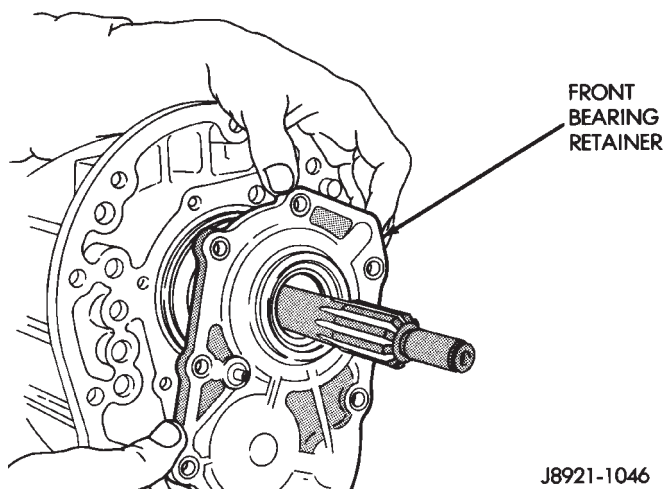

Fig. 39 Install Front Bearing Retainer
(5) Apply 1/8 inch wide bead of Threebond® Liquid Gasket TB1281, P/N 83504038, to the front bearing retainer sealing surface.
(6) Install the front bearing retainer (Fig. 39) and tighten bolts to 17 N·m (12 ft. lbs.).